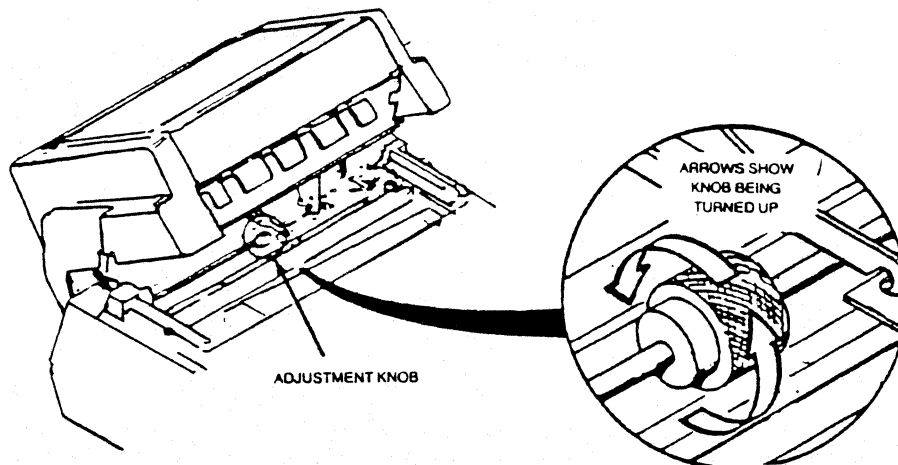

Figure E-10 Horizontal Adjustment; Adjustment Knob
1. Tilt the feeder body back and locate the horizontal adjustment knob, shown in detail in Figure E-10.
3. Turn the knob UP (see Figure E-10) to move the feeder toward the RIGHT (control panel) side of the printer. Turn the knob DOWN to move the feeder toward the LEFT (forms lever) side of the printer.\*